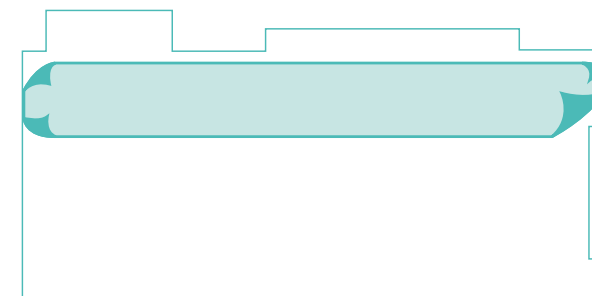

Figure 10 Lining up the first sheet
- ▶ Adjust the lie of the sheet so that the inner edge is parallel with the axis of the room (Fig 10).